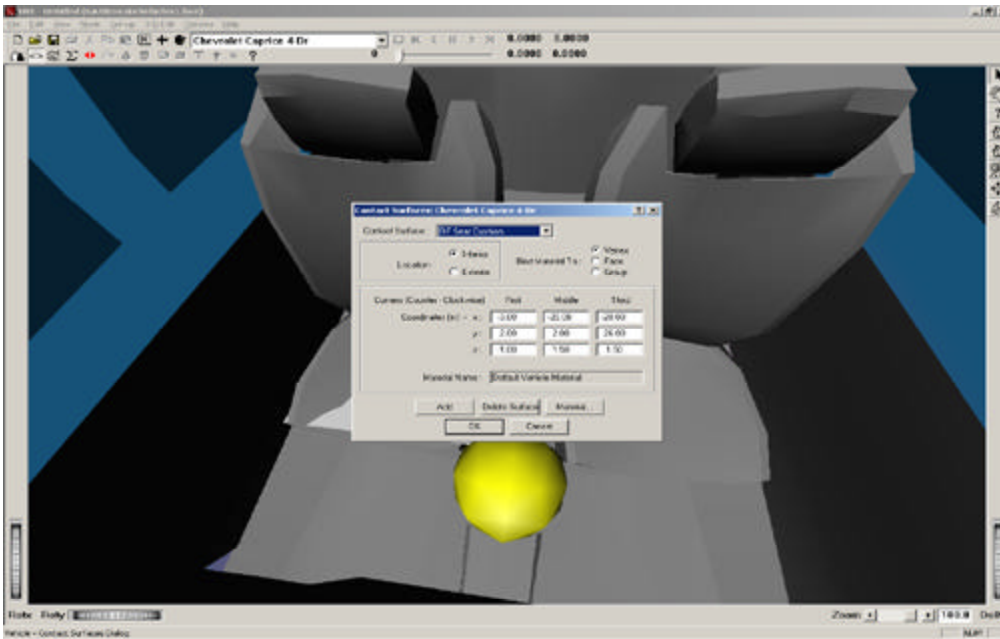

Figure 5-13: Editing RF Seat Cushion contact surface
- Adjust the following corner coordinates to make the panel appear similar to Figure 5-13 and 5-14.